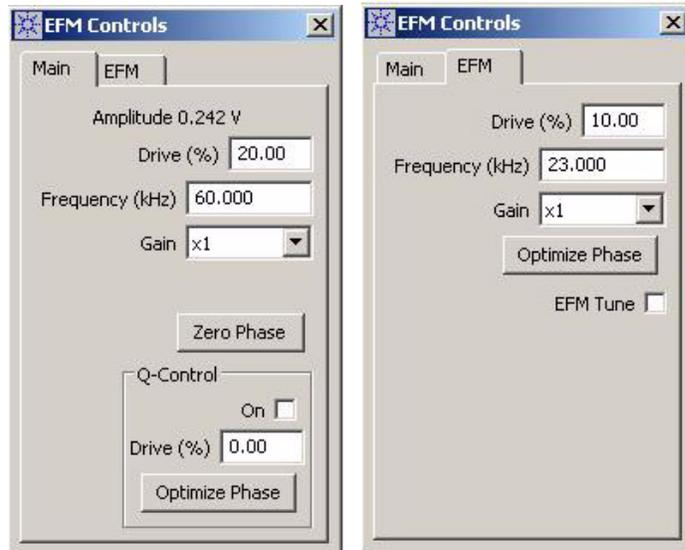

Figure 86 EFM Controls window
- 6 Choose **Controls > Advanced > AC Mode**. The **EFM Controls** window will open (Figure 86).